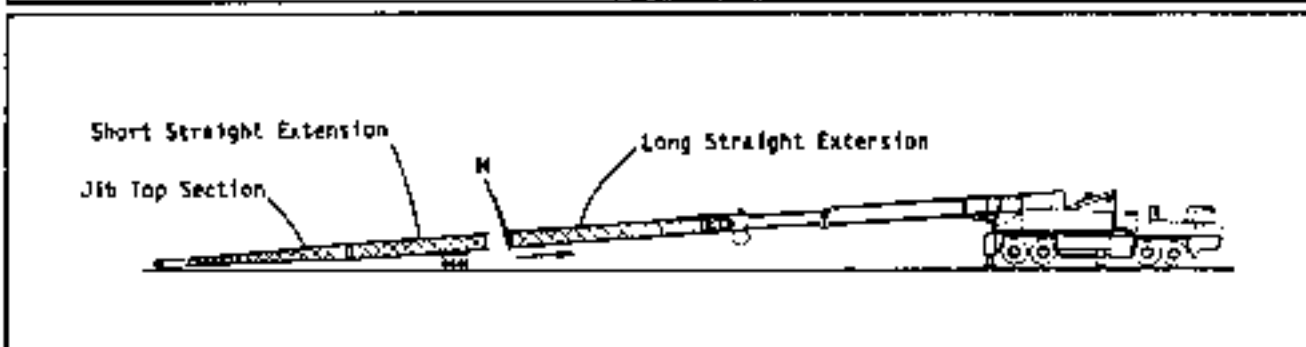

Fig. 4-62
- Step 6:** Construct blocking that is secure and stable. Take care not to bump, or knock jib sections from blocking. Boom down onto blocking as in Fig. 4-62. Remove pins at "H" to disconnect the short straight extension from the long straight extension. Retract boom tip section.